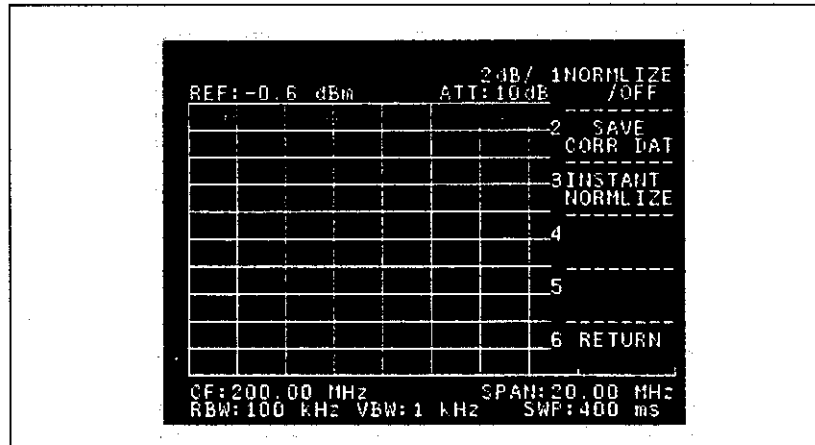

Figure 10-2 Normalize Screen
- ⑪ Press      to normalize the system of measurement. Then the screen changes as shown in Figure 10-2.